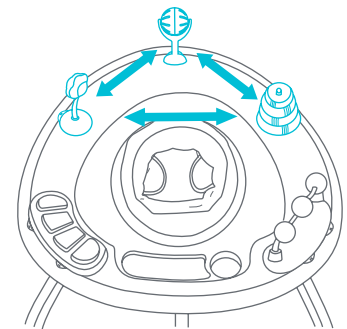

Fig. 6a
- 6 • Place toys in this order as shown. Toys must be properly attached before use (Fig. 6a). **NOTE: ONLY the spinning ball, bendable rattle, and toy rings are interchangeable.**